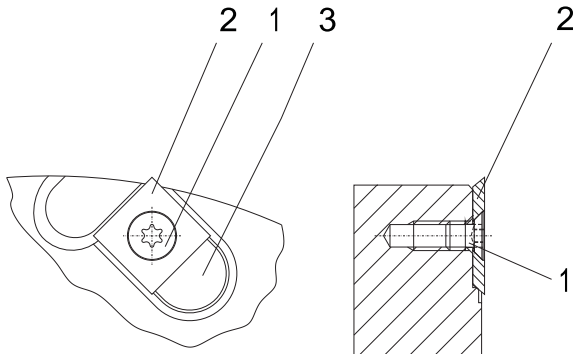

Fig. 5
(See Fig. 5 and 6)
2. Loosen the screw (1) with the Torx key and completely remove it from the knife seat.
3. Remove the spur knife (2) from the knife seat.
4. Clean the knife seat (3) and all of the corresponding components that go with it. Be sure all surfaces are free from dirt, oil, grease and water.
5. Insert precisely the reversed or new spur knife into the knife seat (see Fig. 5 and 6).